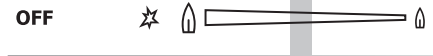

Fig. 2
4. If only the inner burner is needed, continue to rotate the gas control knob counterclockwise past grey area as shown in Fig. 2.